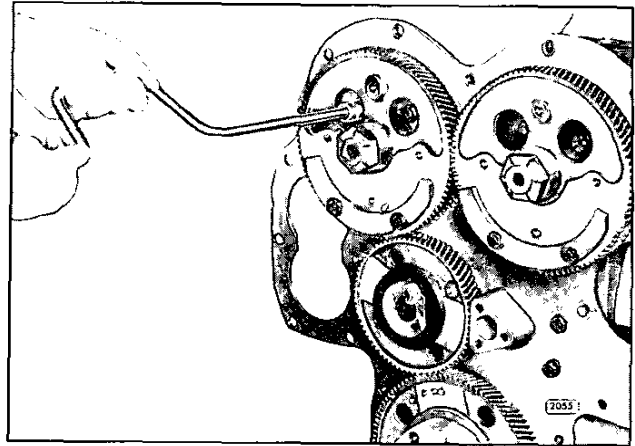

Fig. 2 – Removing or Installing Thrust Washer Retaining Bolts
11. Remove the two retaining bolts that secure the camshaft or balance shaft thrust washer to the cylinder block by inserting a socket wrench through a hole in the web of the gear (Fig. 2).